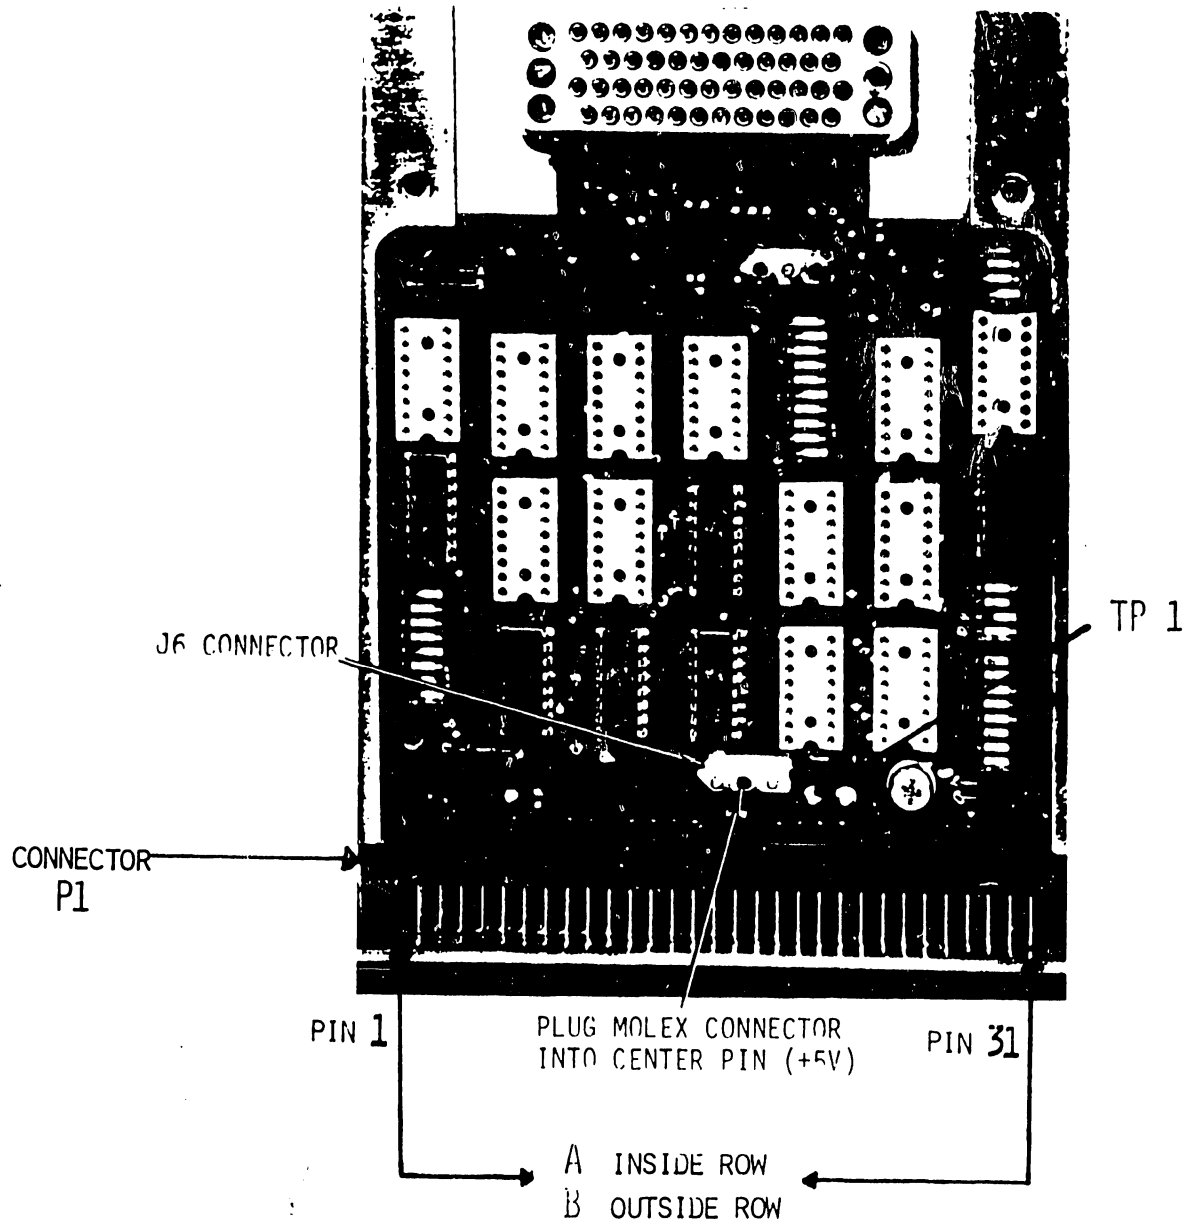

FIGURE 3-2 WINCHESTER I/O BOARD TEST POINT LOCATIONS
- The single pin Molex connector is used with the CDC Hawk disk drives. On the Winchester I/O board, connect the cable to the center pin of the three-pin connector (J6) as shown in Figure 3-2.
8. Connect channel 1 to "On Cylinder", pin B9 of Winchester I/O board. (Ref. Figure 3-2)